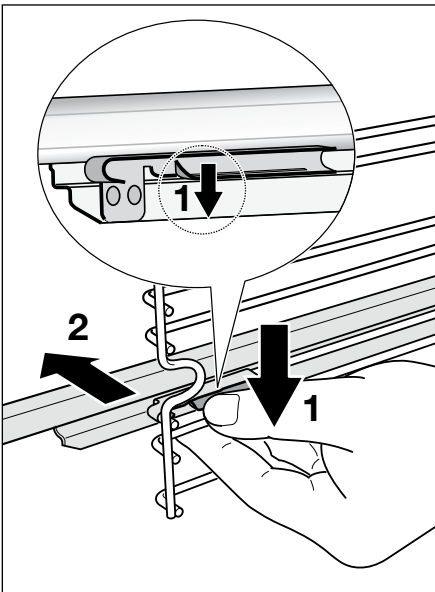

Fig.57 Removing the sliding shelf supports
- 3 Find the safety locks. These are the tabs that clip over the wire of the side rack (arrow 1 in Fig. 57).
- 4 Pull the safety locks away from the wire to release the wire (arrow 2 in Fig. 57).